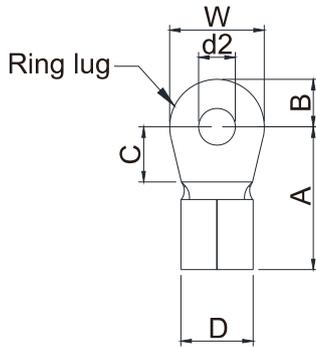
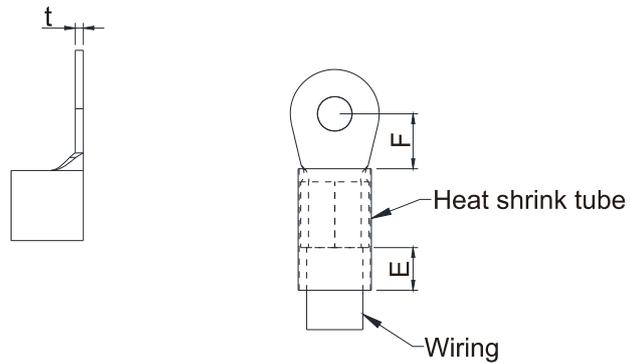

Figure 5-6
Figure 5-7
- Use the specified ring lug for main circuit terminal wiring. See Figure 5-6 and Figure 5-7 for ring lug specifications. For other types of wiring, use the wires that comply with the local regulations.
- After crimping the wire to the ring lug (must be UL and CSA approved R/C (YDPU2/8)), install heat shrink tubing rated at a minimum of 600 VAC insulation over the live part. Refer to Figure 5-7.